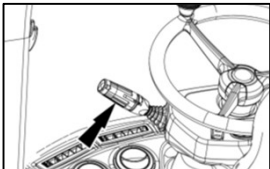

Fig. 3
3. Set the speed selector to the "D" (DRIVE – fig. 3) position. This enables all available speed ranges, allowing the system to automatically decide when to prioritize torque for greater pushing power and when to prioritize travel speed. All of this occurs without the "shift shocks" typical of conventional powershift transmissions.